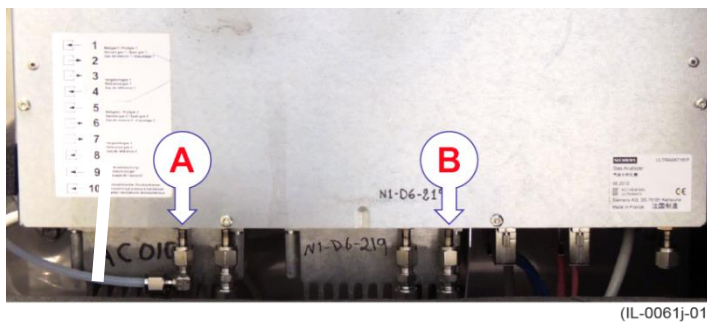

Figure 35 Analyser module assembly, lower connections
19) Connect the atmospheric vent tube (A in Figure 35) and the sample inlet tube (B in Figure 35) to the analyser module.